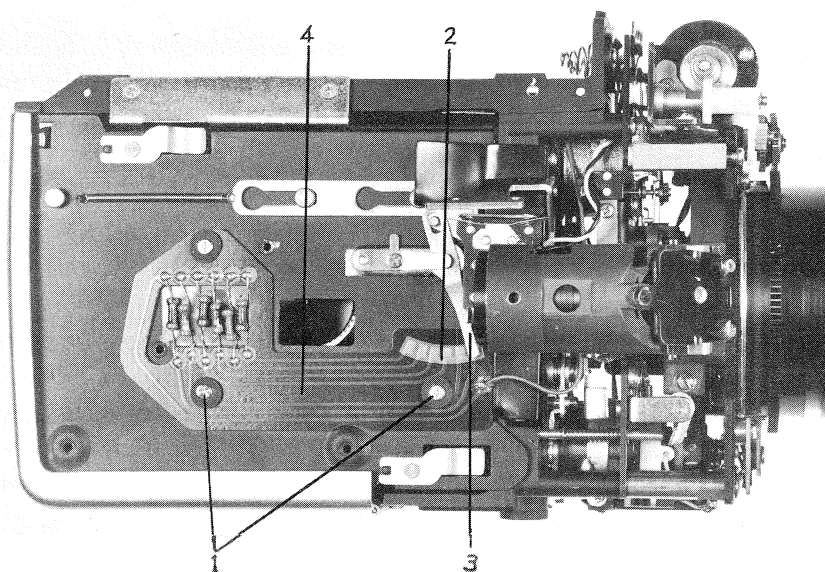

Fig. 27
- (1) Defective dry mercury battery Replace
- (2) Defective VRL - Defective contact of movable terminal Replace.
- d-1. The ASA sensitivity lever must be in correct contact with the contact point (2 in Fig. 27) fixed by the cassette.
- d-3-1. Incorrect positioning of ASA selector printed base plate (4 in Fig. 27).
- d-3-3. In the case of d-3-1, loosen the screw shown in Fig. 27 (1) and adjust the position of the ASA selector printed base plate.